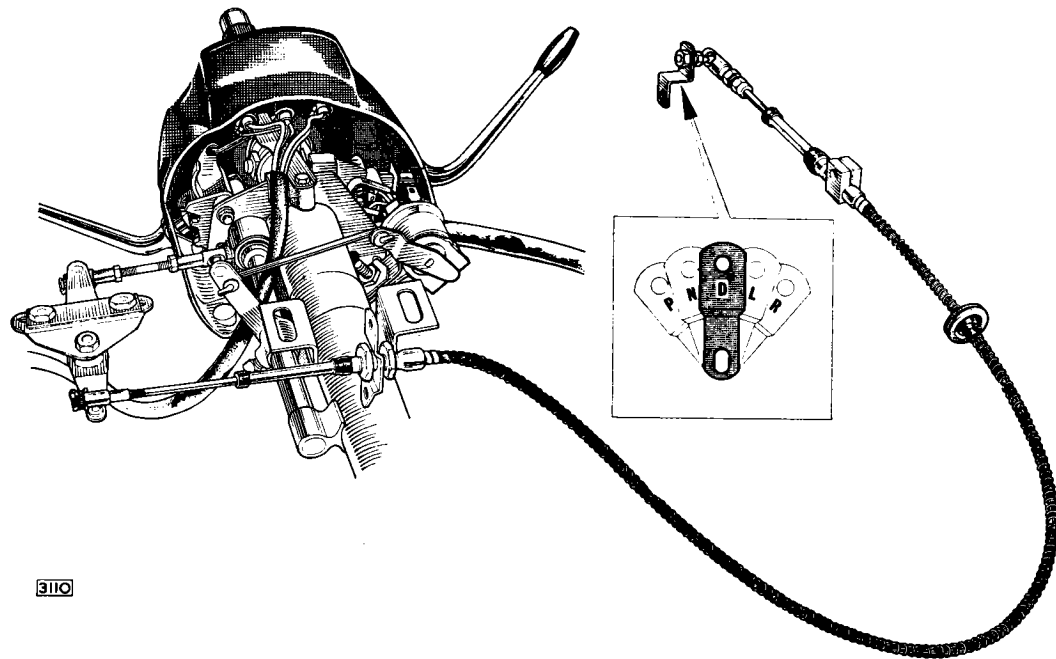

Fig. 8. *Adjustment of the manual selector cable.*
1. Place the selector valve lever in the D (Drive) position, that is, the centre of the five positions that can be obtained (see Fig. 8).